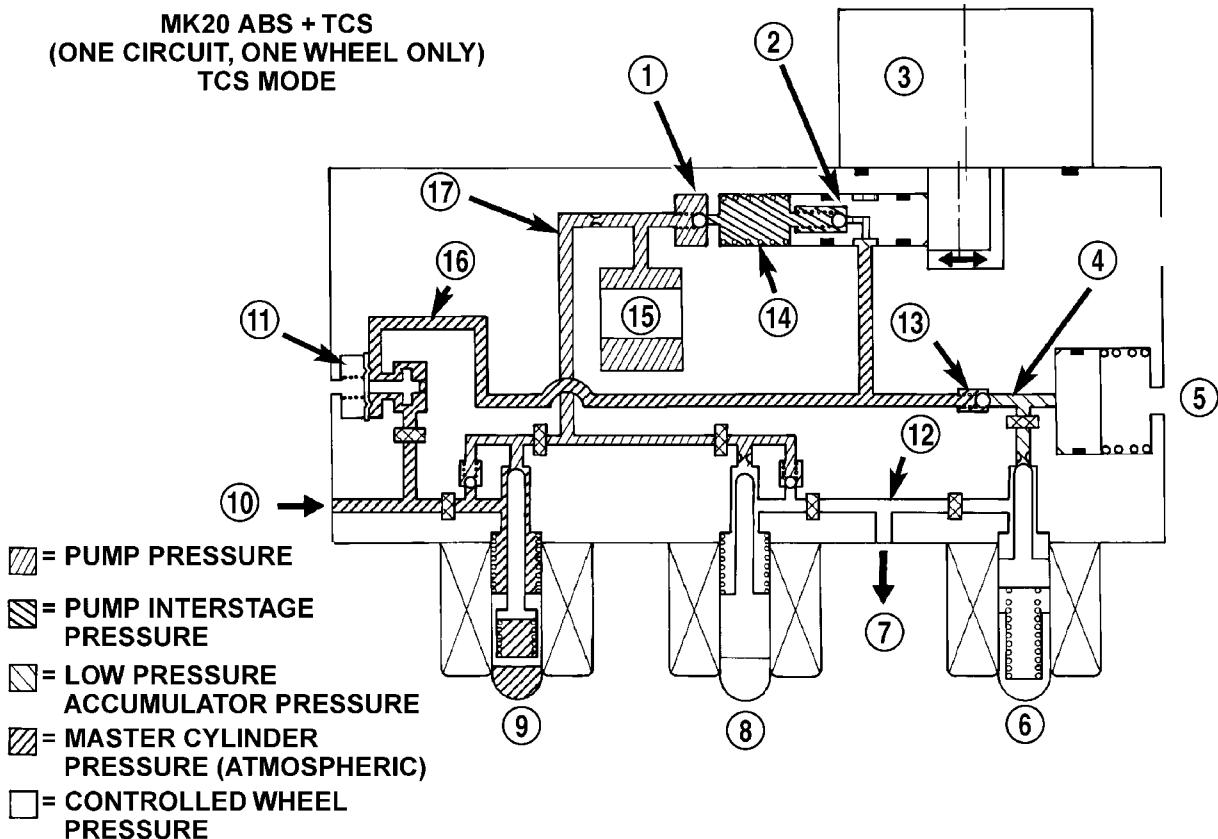

Fig. 11 Traction Control Hydraulic Circuit
The hydraulic diagram (Fig. 11) shows the vehicle in the traction control (TC) mode. The diagram shows a drive wheel is spinning and brake pressure is required to reduce its speed.